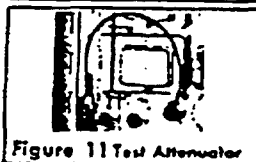

Figure 11 Test Attenuator
3. Flame Signal Attenuator. Directly above the vacuum tubes on the chassis is a recessed pin, which when grounded to the chassis by a clip cord (Fig. 11), will reduce the sensitivity of the flame signal amplifier 40% for test purposes.